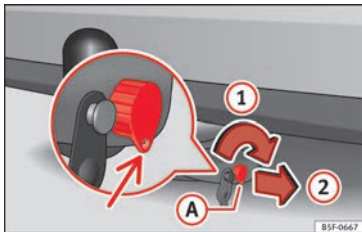
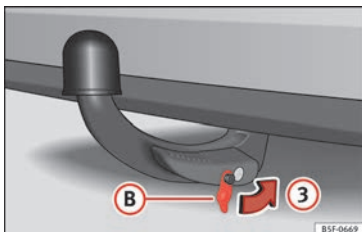

Fig. 230 Locking the lock
Fig. 231 Placing the cover over the lock.
- Turn key (A) in the direction of arrow (1) until the part of the key with the holes reaches the bottom position » Fig. 230.
- Remove the key in the direction of arrow (2).
- Place cover (B) in the lock in the direction of arrow (3) » Fig. 231 » ①.